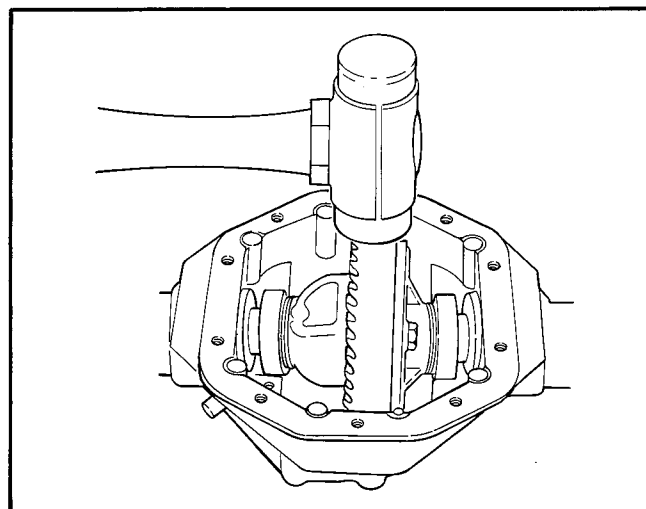

Figure 32 – Installing Differential Assembly
- k. Install pinion shaft (21) along with bearing (22), spacer (23), and shims (24) into housing.
- l. Install bearing (25), oil slinger (20), oil seal (34), pinion yoke (35), washer (36), and pinion nut (19) on pinion shaft. Tighten pinion nut to 50-75 ft.-lbs. (6.9-10.3 kgm) torque aligning cotter pin hole and nut. Use a 1-1/4 inch offset box wrench to hold the pinion nut and a spline socket to turn pinion shaft.
- m. Pinion preload is checked with in.-lbs. torque wrench. Turning torque of pinion shaft should be between 2-13 in.-lbs. Pinion shaft must be vertical for this check. Torque reading to start shaft turning should be disregarded. If torque reading is high, add shims to increase shim pack (24) thickness. If torque reading is low, remove shims to decrease shim pack (24) thickness. Preload shims are available in the following thicknesses: .003 in. (.076 mm), .005 in. (.13 mm), .010 in. (.25 mm), and .030 in. (.76 mm). When turning torque is correct, install cotter pin (37).
- n. Install differential case assembly (6) along with bearing cups (7) into housing aligning ring and pinion gears to avoid nicking teeth. Tap ring gear lightly with soft hammer to seal case assembly, in housing, Figure 32.
- o. Install bearing caps (5) making sure the letter stamped on them corresponds to the letter on the housing. Install bearing cap bolts (4) and tighten to 35-45 ft.-lbs. (5.5 kgm) torque.